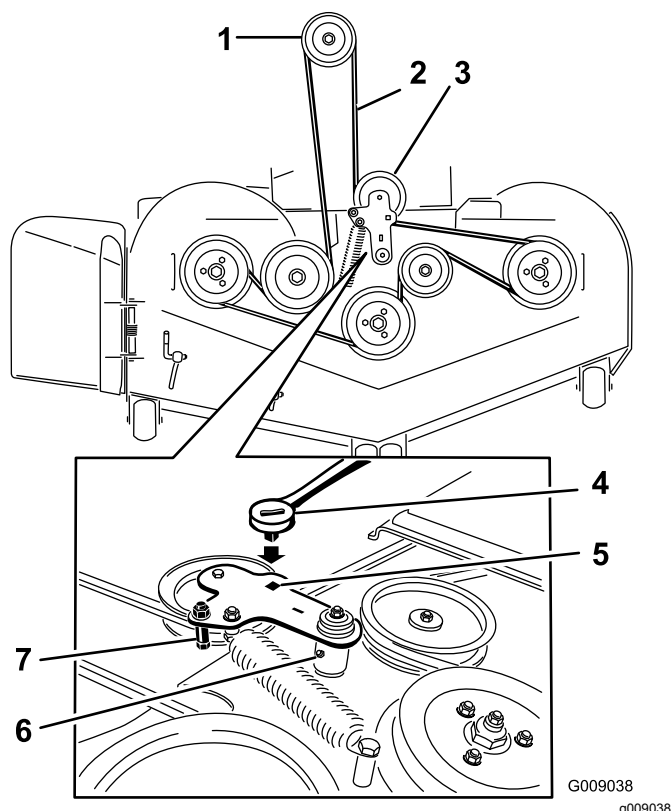

Figure 101
5. Lift up the floor pan and insert a ratchet into the square hole in the deck idler (Figure 101).
6. Rotate the deck idler clockwise and remove the mower belt (Figure 101).